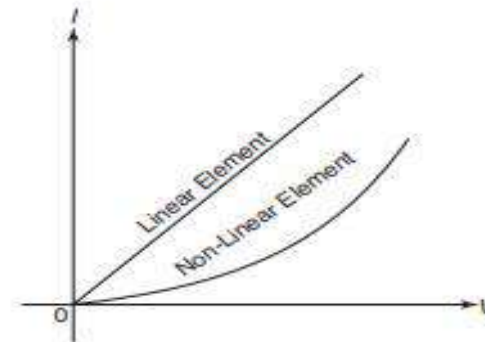

Fig. 1.8 V-I characteristics of linear and non-linear elements
2. **Linear and Non-linear Elements** If the resistance, inductance or capacitance offered by an element does not change linearly with the change in applied voltage or circuit current, the element is termed as *linear element*. Such an element shows a linear relation between voltage and current as shown in Fig. 1.8. Ordinary resistors, capacitors and inductors are examples of linear elements.
A non-linear circuit element is one in which the current does not change linearly with the change in applied voltage. A semiconductor diode operating in the curved region of characteristics as shown in Fig. 1.8 is common example of non-linear element.